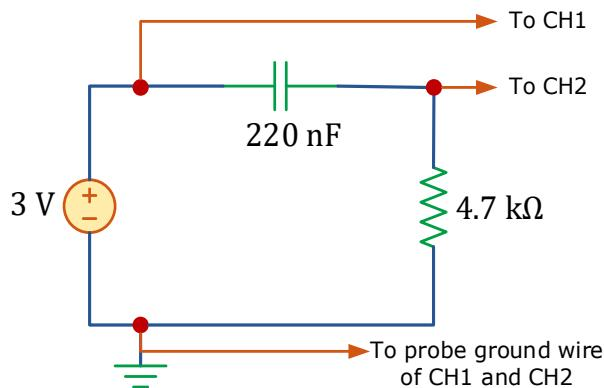

Figure 5.4. RC circuit to observe the transient behaviour with the oscilloscope.
**B.1** Construct the RC circuit of Figure 5.4 on your breadboard. Adjust the output voltage of the DC power supply according to Figure 5.4 and set the current limit to 0.5 A.
Connect the oscilloscope as indicated in Figure 5.4. Set the vertical scale of the oscilloscope to **1V/div** on both channels with **DC Coupling**. Also, set the horizontal scale to **2 ms/div** and choose **CH1 as triggering source** on the **rising edge** with a **trigger level** of **0.5 V**. Finally, press the "Single" button to have the oscilloscope ready to be triggered. Once all these settings are in place, turn the power supply on and then use a wire to connect the RC circuit to the 3-V DC power supply and charge the capacitor, displaying the **transient voltage** of the capacitor on **CH2**.
- B.3** The current through the RC circuit of Figure 5.4 can be determined using Ohm's law. Using the waveforms from **B.1**, calculate the peak current through the resistor.